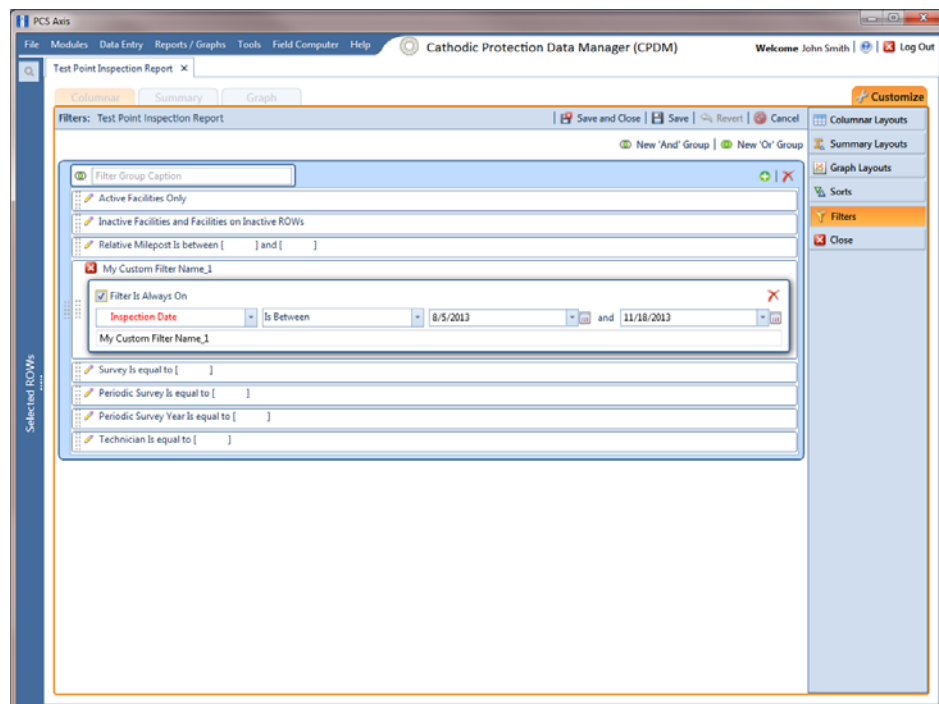

Figure 15-47. Inspection Date Is Between
- 4 Click the edit icon  to display a filter's property settings. In the following example, property settings for *Inspection Date Is between* are visible (Figure 15-47, page 670).